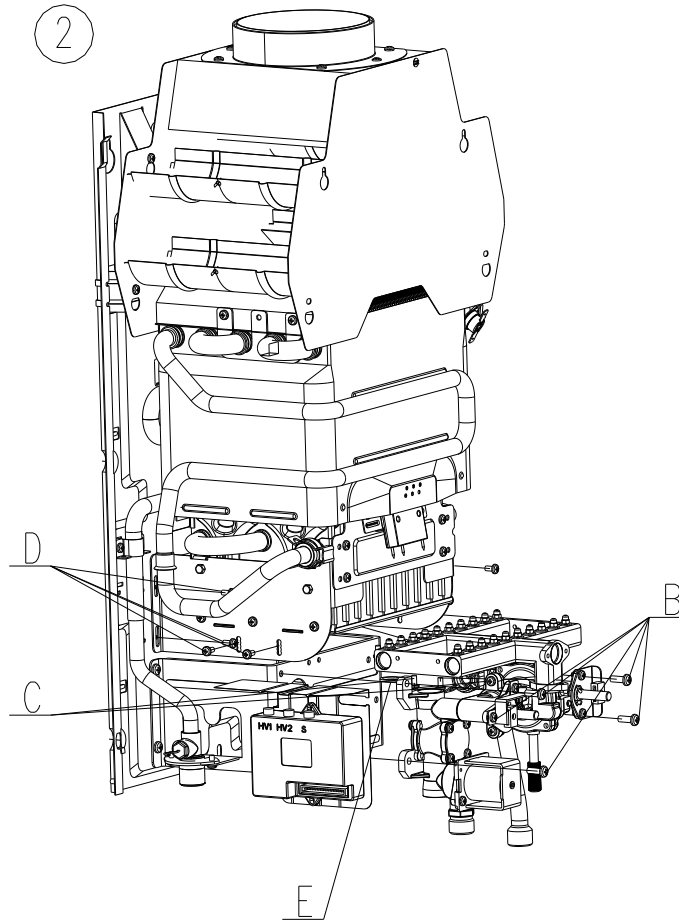

fig.16
2. Unscrew the connection between water-gas valve and its support, remove the clip which fixes the connection of water valve and water inlet pipe of burner. Remove cable connection for water-gas valve and earthing (fig.16, setp B)
3. Unscrew the connection between water-gas valve and the gas manifold.(fig.16, setp C)
4. Unscrew the connection between gas manifold and both side brackets in the burner. Loosen the rest screws for both sides brackets to completely release the manifold(fig.16, setp D), then take out the manifold
Operate the replacement slowly and make sure not to damage any of the sealing gaskets and put them in the right positions. It's recommended to have them replaced with new one (fig.16, setp E).